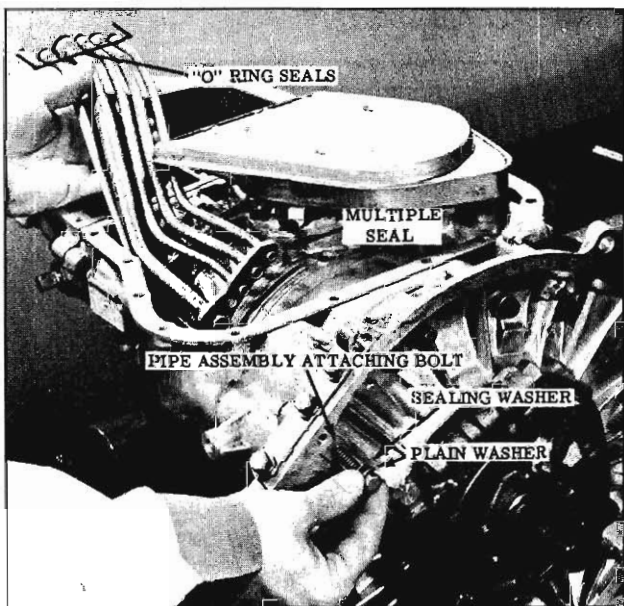

Fig. 6-121 Installing Pipe Assembly
19. Install pipe assembly into case through opening in case. (Fig. 6-121)